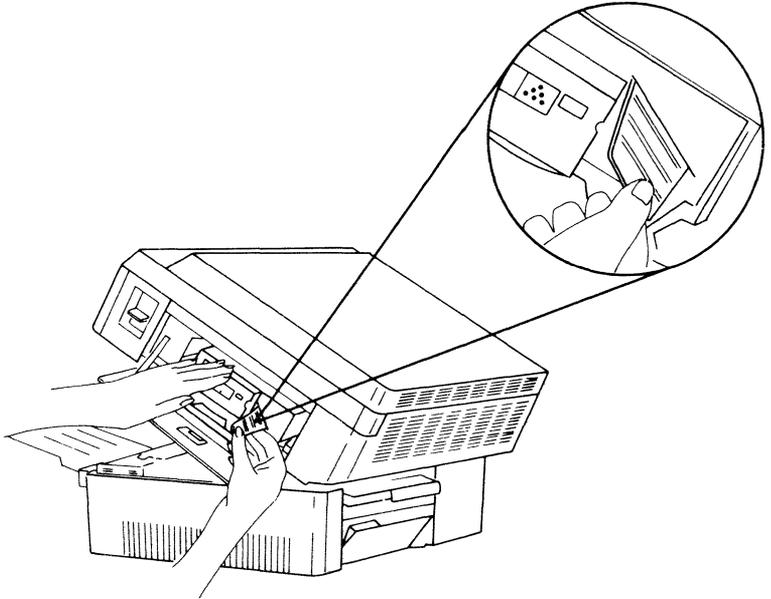

Figure 6: Breaking the Black Tab
4. Hold the print cartridge and flex the black tab back and forth until it breaks loose. Pull the tab out completely to remove the attached sealing tapes. (See Figure 6.)